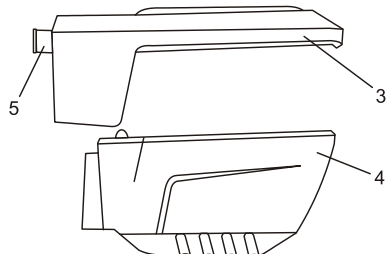

Fig. 8
2. Pry the top of the dust box (3) away from the bottom of the dust box (4) (Fig. 8).
**NOTE:** The locking tabs (5) will "snap" into place when the dust box is fully pushed onto the rear of the sander.